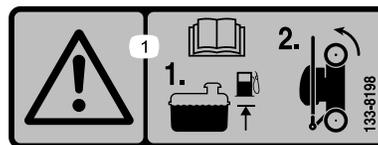

Figure 24
1. Ensure that the level of fuel in the fuel tank is no higher than what is recommended by the engine manufacturer; refer to the engine manufacturer's decal on the engine (Figure 24).